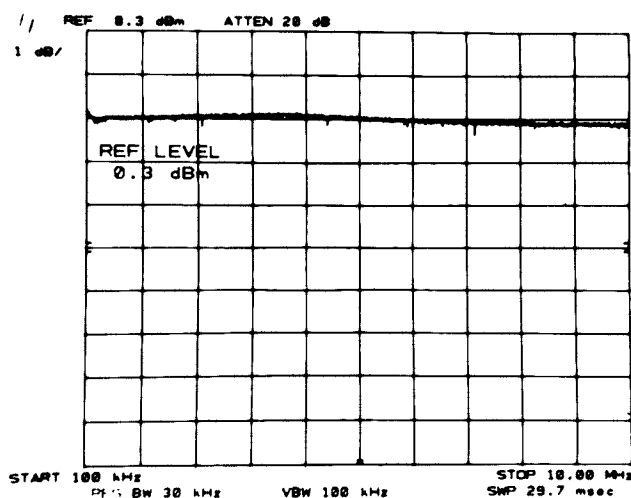

Figure 4-20. Frequency Response Measurement (100 kHz to 10 MHz)
25. Press **START SINGLE** on the synthesizer and wait for completion of the sweep. The peak-to-peak variation of the trace should be less than 1.2 dB (refer to Figure 4-20). Measure the peak-to-peak amplitude with the **MARKER Δ** function if the response appears marginal.